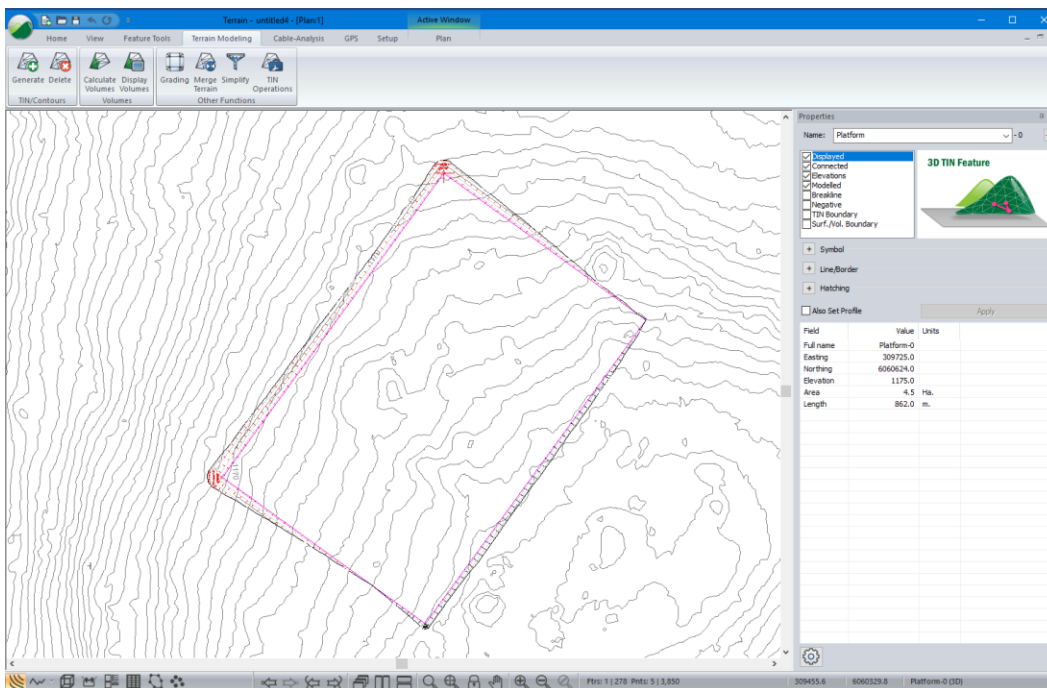

Figure 9-8: Screen Shot with Pad Top Selected
10. First, select the pad if it is not already selected. Select the pad top by using the selection cursor . It is not necessary to select the slope and daylight lines. (Refer to the Figure 9-8)